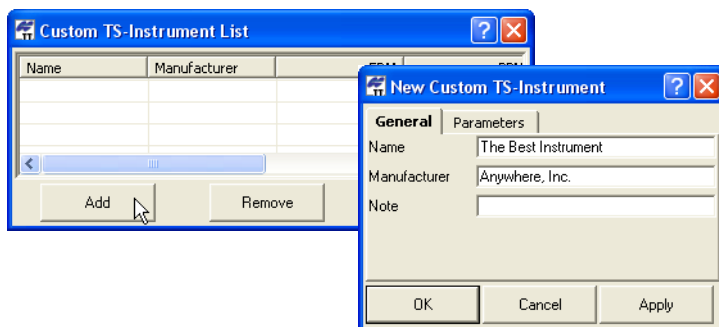

Figure 5-92. New Custom TS Instrument
3. Click **Add** (Figure 5-92). To remove an instrument, click on the TS instrument's row and click **Remove**.
- On the *General* tab, edit the *Name*, *Manufacturer*, and *Note* fields (Figure 5-92). Then click **Apply** to save the information.